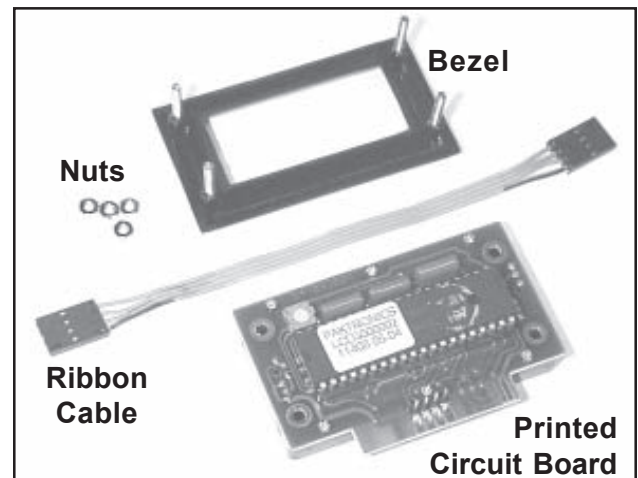

Figure 118. Digital Display Parts
7. Pull the bezel out from the front of the door (Figure 118).